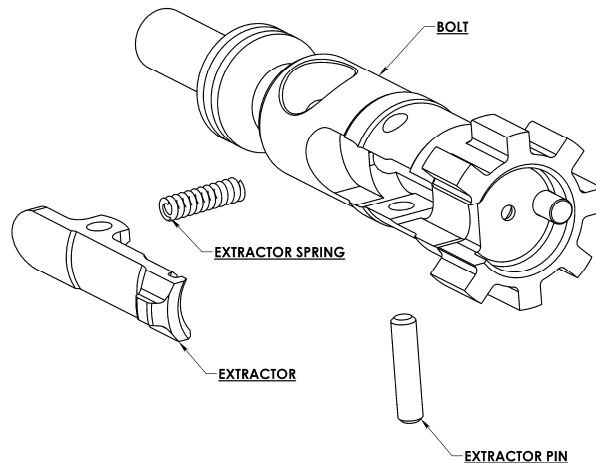

Figure 22.
2. Remove the extractor and spring. (Figure 22).